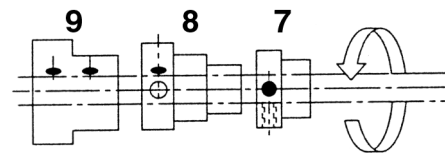

Fig. 4
3. Turn the handwheel (180°) in the normal direction. Check that the counterweight 9 and the eccentrics 7 and 8 are set in accordance with fig. 4.